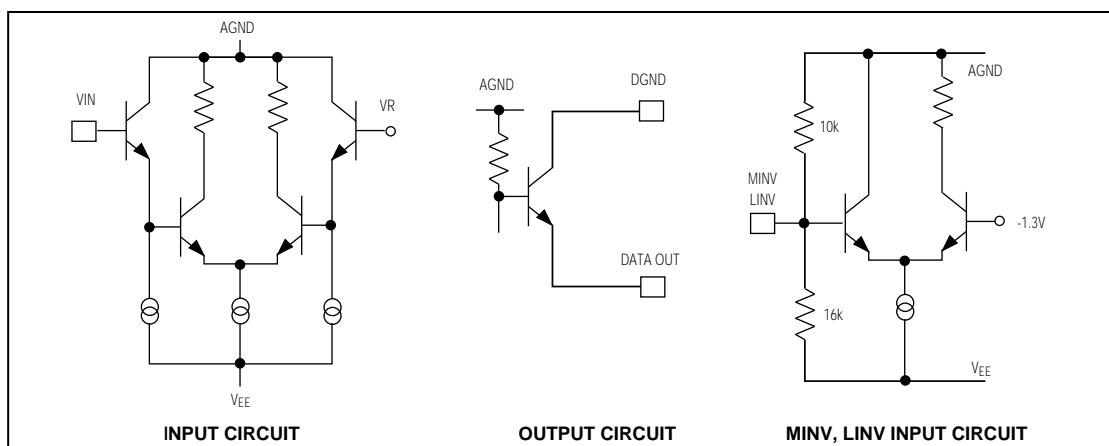

Figure 4. Subcircuit Schematics
There are two analog input pins that are tied to the same point internally. Either one may be used as an analog input sense and the other for input force. This is convenient for testing the source signal to see if there is sufficient drive capability. The pins can also be tied together and driven by the same source. The MAX1125 is superior to similar devices due to a preamplifier stage before the comparators (Figure 4). This makes the device easier to drive because it has constant capacitance and induces less slew-rate distortion. An optional input buffer may be used.
These are ECL-compatible digital controls for changing the output code from straight binary to two's complement, etc. (Table 1 and Figure 4). Both MINV and LINV are in the logic low (0) state when left open. The high state can be obtained by tying to AGND through a diode or 3.9kΩ resistor.